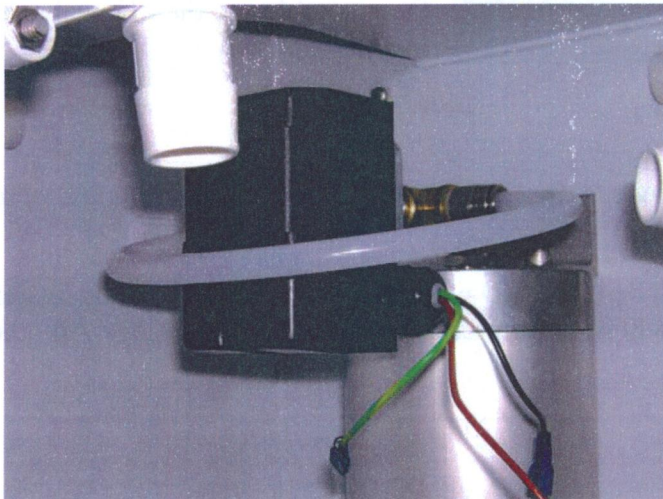

Fig 6
Determine which station is leaking by connecting the two outlets together. **See Fig 6.**
- Disconnect the B side outlet tube from the air tank. (Fig 6)